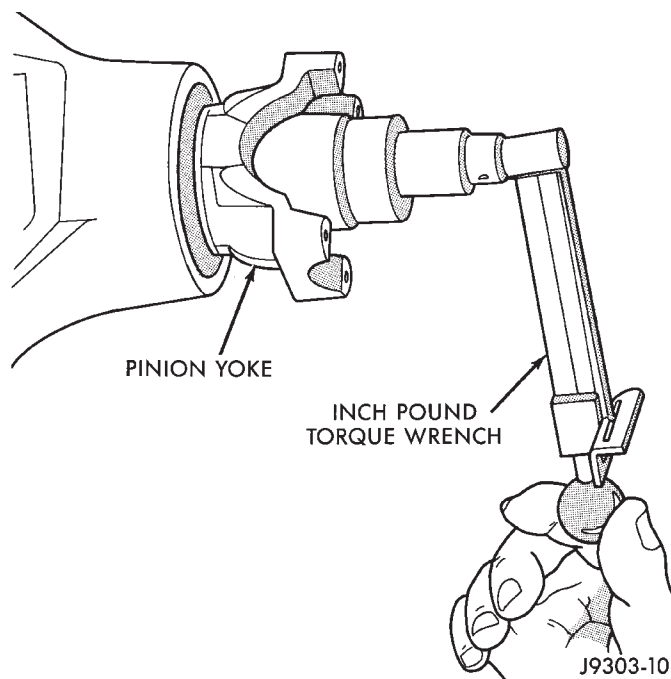

Fig. 15 Check Pinion Gear Rotation Torque
(11) Slowly tighten the nut in 6.8 N·m (5 ft. lbs.) increments until the rotating torque is achieved. Measure the rotating torque frequently to avoid over crushing the collapsible spacer (Fig. 15).
(12) Check rotating torque with an inch pound torque wrench (Fig. 15). The torque necessary to rotate the pinion gear should be: